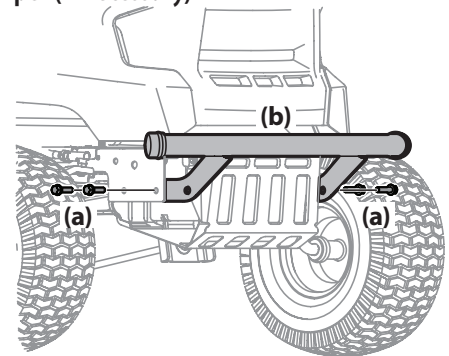

Figure 10
- Position the bumper brackets to the inside of the tractor's frame and secure it in place with the four hex screws (a). Torque to 332–405 in.-lbs (37.5–45.75 N-m). See Figure 10.